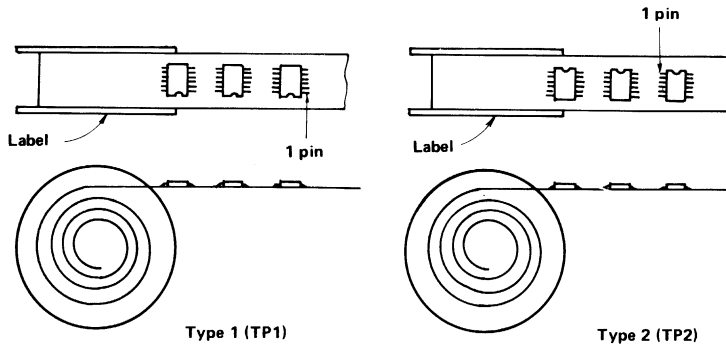

Fig. 4 Direction of tape winding
(3) Direction of tape winding (Fig. 4)